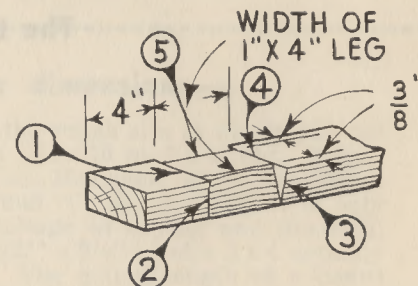

FIG. 4 GAIN JOINT FOR RECEIVING LEG
Under another window on the north side is a storage cabinet for small machines and equipment. On top of this cabinet is the grinder, also a supply cabinet on the right for screws and nails (Fig. 4).
1. Lay out the bottom cut (1) as in Fig. I, using the figures 4 and 24 on the framing square to get the angle cuts. Measure the length $24\frac{5}{8}$ ", reverse the square and again use the figures 4 and 24 on the square to lay out the top cut (2), Fig. II.
4. Lay out the gain joints, Fig. IV, which will receive the legs. The legs of the saw horse are set back 4" at the top, causing the legs to set at an angle of 4" to 24" of height. Square a line (1) across the top side of the 2 x 4 four inches from the end. Lay out the angle cut (2) on both sides by holding the square to 4 and 24. Lay out the width of the leg and draw lines (3) and (4) on the top and edges of the 2 x 4. Gauge the line (5) $\frac{3}{8}$ " from the edge to complete the layout of the gain joint. Cut the gain joint by sawing along the lines and remove the wood with the chisel, from nothing at the bottom edge to $\frac{3}{8}$ " at the top.
6. The end pieces (A) are cut from the 1 x 10 piece. Be sure the grain of the wood will run across rather than up and down. Nail the end pieces in place with 8D nails so that the bottom of the legs will have a spread of 15". These end pieces should be nailed tight up against the 2 x 4.
7. Cut the tray bottom to length, measuring the length from outside to outside of the end pieces (A). Fit into place by cutting out for the legs, then nail to the end pieces (A).
8. Cut and nail in place the 1 x 2 tray side pieces (B), also the 1 x 2 tray supports (C).